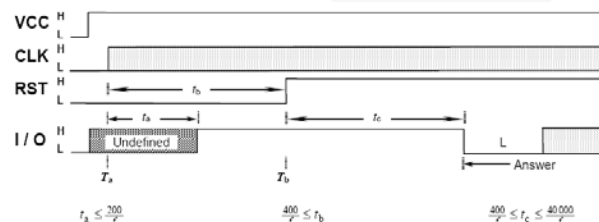

Figure 15. Activation Timing (ISO 7816-3 2006)
To ensure the SIM card electrical circuits do not activate before the contacts of the SIM card are mechanically connected, ISO7816-3 2006 mandates the activation sequence of events described in Figure 15. The FXLA2204 provides full transparency to the activation timing between host and SIM card.
5. Begin activation timing (see Figure 15).